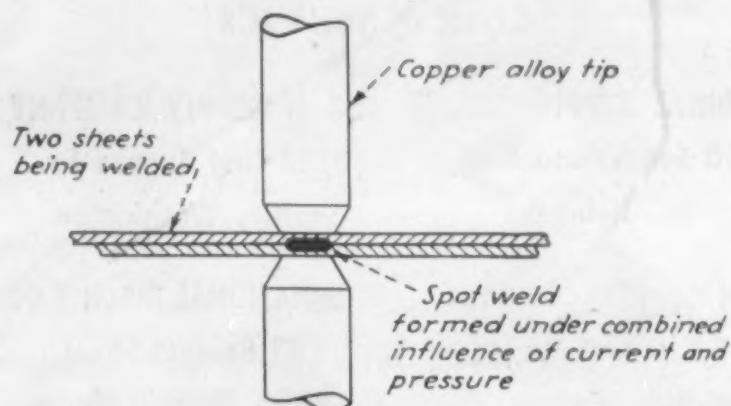

Fig. 2. Section Through Spot Welding Electrodes
**Spot Welding**—Spot welding reduced to its simplest terms, consists in clamping two or more pieces of sheet metal between two copper alloy electrodes or welding tips; the passage of an electric current between these tips (and passing through the sheets between them) is sufficient to heat the sheets locally to a plastic temperature. Since these tips, or electrodes, also exert a considerable mechanical pressure on the spot being heated, a bond is created between the plastic spots of the sheets. This is shown schematically in Fig. 2.